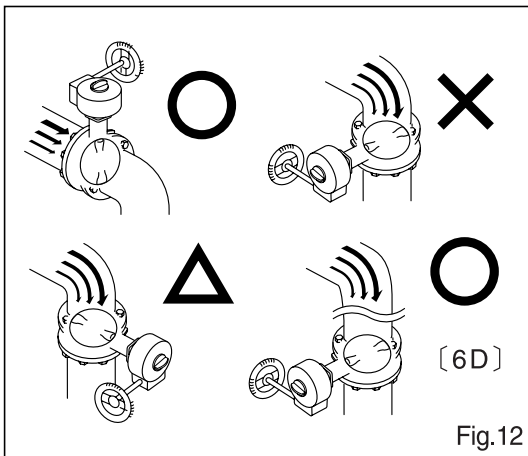

Fig.12
- **Installation the valve to a bent pipe** : Upon installation of the valve to the pipings, no definite limitation of direction of the valve being installed but, under such condition as illustrated in Fig.12, direction of stem to be cared.